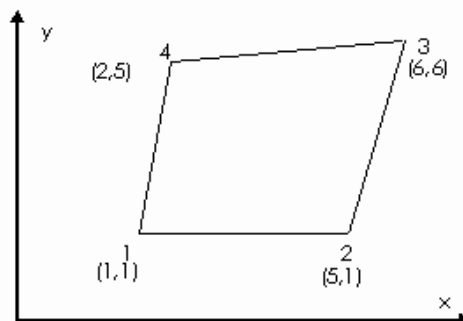

Figure: 2
b) A four- noded quadrilateral element is shown in figure 2. Determine the generalized coordinates of point P whose location in the master element is given by $\xi = 0.5$ and $\eta = 0.5$. [8+8]